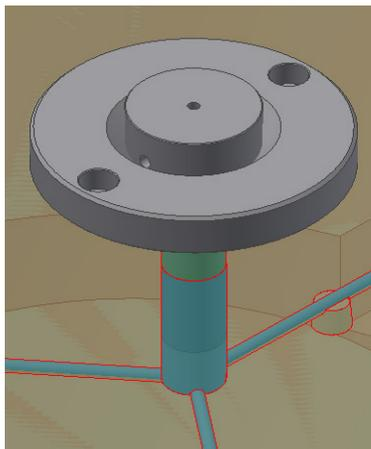

Figure 19-69 The locating ring created
- Choose the **OK** button from the dialog box; the locating ring is created, refer to Figure 19-69.